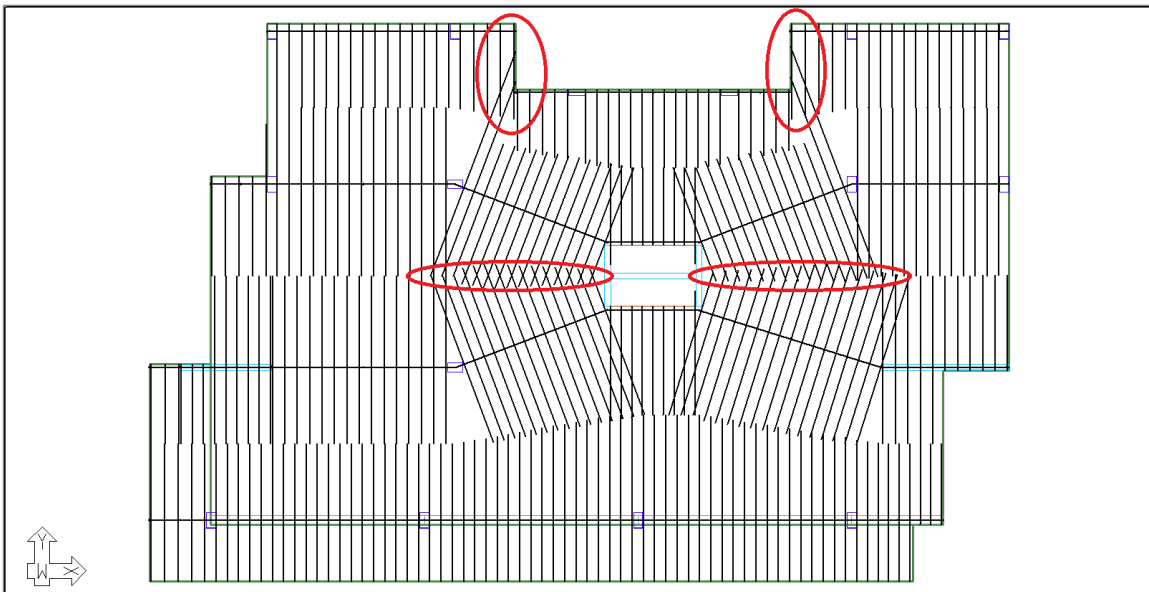

FIGURE 9-21
- As highlighted in **FIGURE 9-21** there are some locations where design sections are extending past the tributary width that we want them to define.